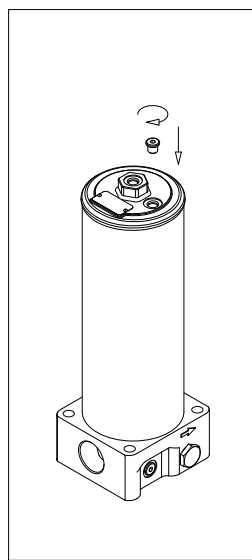

fig. 28
- (Fig. 28) Immediately screw the breather plug in